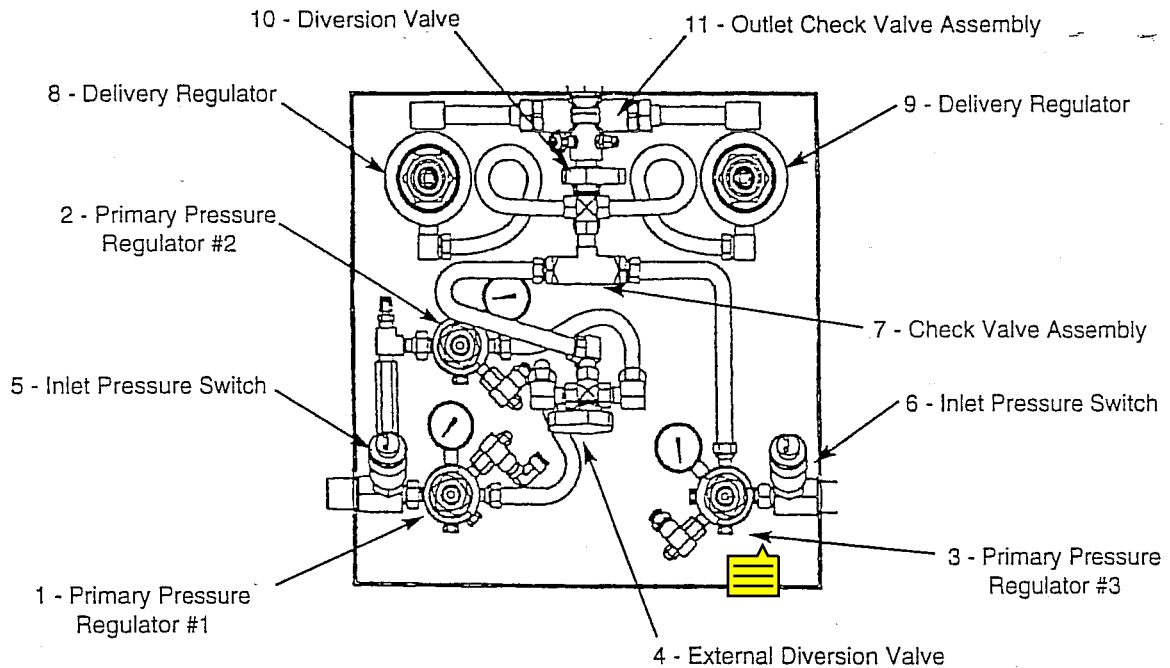

Figure 2
The switchover control operation is based on the pressure settings of the three primary supply regulators, items (1), (2) and (3) in Figure 2 above. The primary bank (or "supply") is controlled by the position of the diversion valve (4), whose position indicates the cylinder bank from which gas is being drawn.
NOTICE Refer to Figure 2 for component locations.
NOTICE Refer to Figure 2 for a drawing showing individual manifold components.
5. Make sure the external diversion valve (Item 4, Figure 2) is pointing to the right bank. Pressurize the left inlet to the pressure recommended above. Observe the pressure gauge on the top left primary regulator (#2). If it does not indicate the pressure shown in Figure 3, reset the preset as directed in the **Primary Regulator Preset Procedure** that follows in this manual.
6. Turn the external diversion valve handle (Item 4, Figure 2) to point to the left bank supply. Observe the gauge on the bottom left primary regulator (#1). If it does not indicate the pressure shown in Figure 3, reset the preset as directed in the **Primary Regulator Preset Procedure** that follows in this manual.
7. Observe the center l.p. gauge on the manifold gauge block. If it is not indicating the correct delivery pressure into the system, reset the preset of the line regulator that is in use as required. Refer to the **Line Regulator Preset Procedure** that follows in this manual. Turn the internal diversion valve (Item 10, Figure 2) toward the other line regulator. Observe the center l.p. gauge on the manifold gauge block. If it is not indicating the correct delivery pressure into the system, reset the preset of the line regulator. Refer to the **Line Regulator Preset Procedure** that follows in this manual.
0. Turn the external diversion valve (Item 4, Figure 2) to point to the left cylinder bank. Shut off the left bank inlet valve. While bleeding pressure off the manifold, monitor the pressure indicated by the left bank inlet pressure gauge. At 250-350 psig, the green light should go off and the red light go on. If this does not occur, reset the pressure switch as directed by the **Pressure Switch Setting Procedure** found later in this manual. Repressurize the left inlet. The red light should go out and the green light should come on.
1. Turn the external diversion valve (Item 4, Figure 2) to point to the right cylinder bank. Shut off the right bank inlet valve. While bleeding pressure off the manifold, monitor the pressure indicated by the right bank inlet pressure gauge. At 250-350 psig, the red light should come on and the green light go off. If this does not occur, reset the pressure switch as directed by the **Pressure Switch Setting Procedure** found later in this manual. Repressurize the right bank inlet and retest.
1. Turn the external diversion valve (Item 4, Figure 2) toward the cylinder bank you wish to be the supply bank.
NOTICE The line regulator preset may be changed while the line regulator is serving as the “service” regulator. The position of the diversion valve (Item 10, Figure 2) controls which line regulator is the “service” regulator.
4. If the preset cannot be changed properly, check that the outlet pressure from the primary regulators is as specified, and that the internal diversion valve (Item 10, Figure 2) is pointed toward the regulator being tested. If these items are correct, the line regulator must be repaired or replaced. See the **Line Regulator Repair/Replacement Procedure** below.